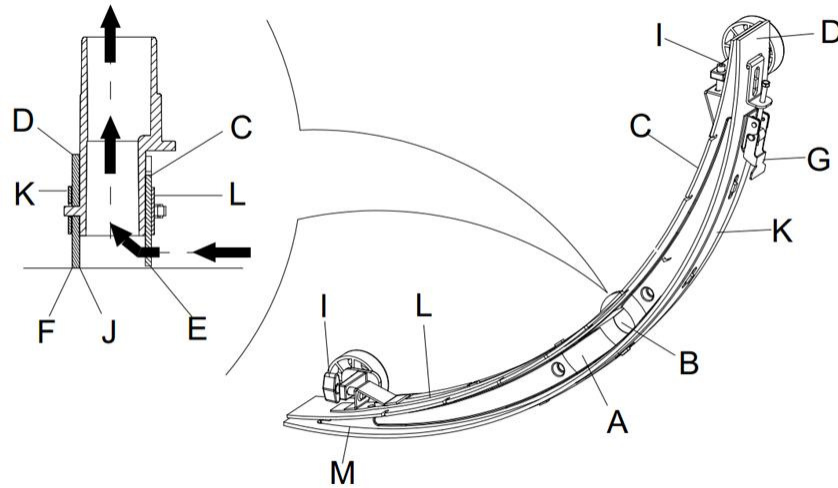

Figure 15
2. Press the power switch (41) to the “O” position to turn off the machine.
3. Unscrew the fixed handle (16) of the squeegee; take off the connector connecting the Recovery Vacuum tube of the squeegee, and take off the squeegee.
4. Use the squeegee lifting handle (14) to lift the squeegee support frame.
5. Clean the squeegee (**Figure 15**). Clean in particular the groove (**A**, **Figure 15**) and the dirt and fragments on the Vacuum tube. Check if the front squeegee blade (C) and the rear squeegee blade (D) are intact, and if there are broken edges and cracks. Change them if necessary (refer to the steps in the following section).
1. Following the methods related in the previous section clean the squeegee (**Figure 15**)
2. Check the edge (**E**, **Figure 15**) of the front squeegee blade and the edge (F) of the rear squeegee blade (D). On the whole length, they should be on the same level. Otherwise, adjust their heights through the following procedure.
- Loosen the clip (G) to let the rear squeegee blade (D) separate from the bracket (M) for the adjustment of the position of the squeegee. After the adjustment, lock the clip once again.
- Loosen the screw on the handle (I) to adjust the front squeegee blade (C); tighten the handle screw after adjustment.
3. Check if the front squeegee blade (C) and the rear squeegee blade (D) is intact and if there are broken edges and cracks. If necessary, change them according to the following ways. Check the front edge of the rear squeegee blade (J) whether it has been worn. If worn, it can be installed upside down (the top edge is required to be intact). If the top edge is also worn, change it by following the procedure below:
- Loosen the clip (G) to let the pressure blade separate from the bracket (M), take off the clip bar (K), and then change or turn the rear squeegee blade (D) upside down. Re-install the rear squeegee blade in the reverse order of taking it off.
- Loosen the handle screw (I) and take off the front clip bar (L), and then change the front squeegee (C).